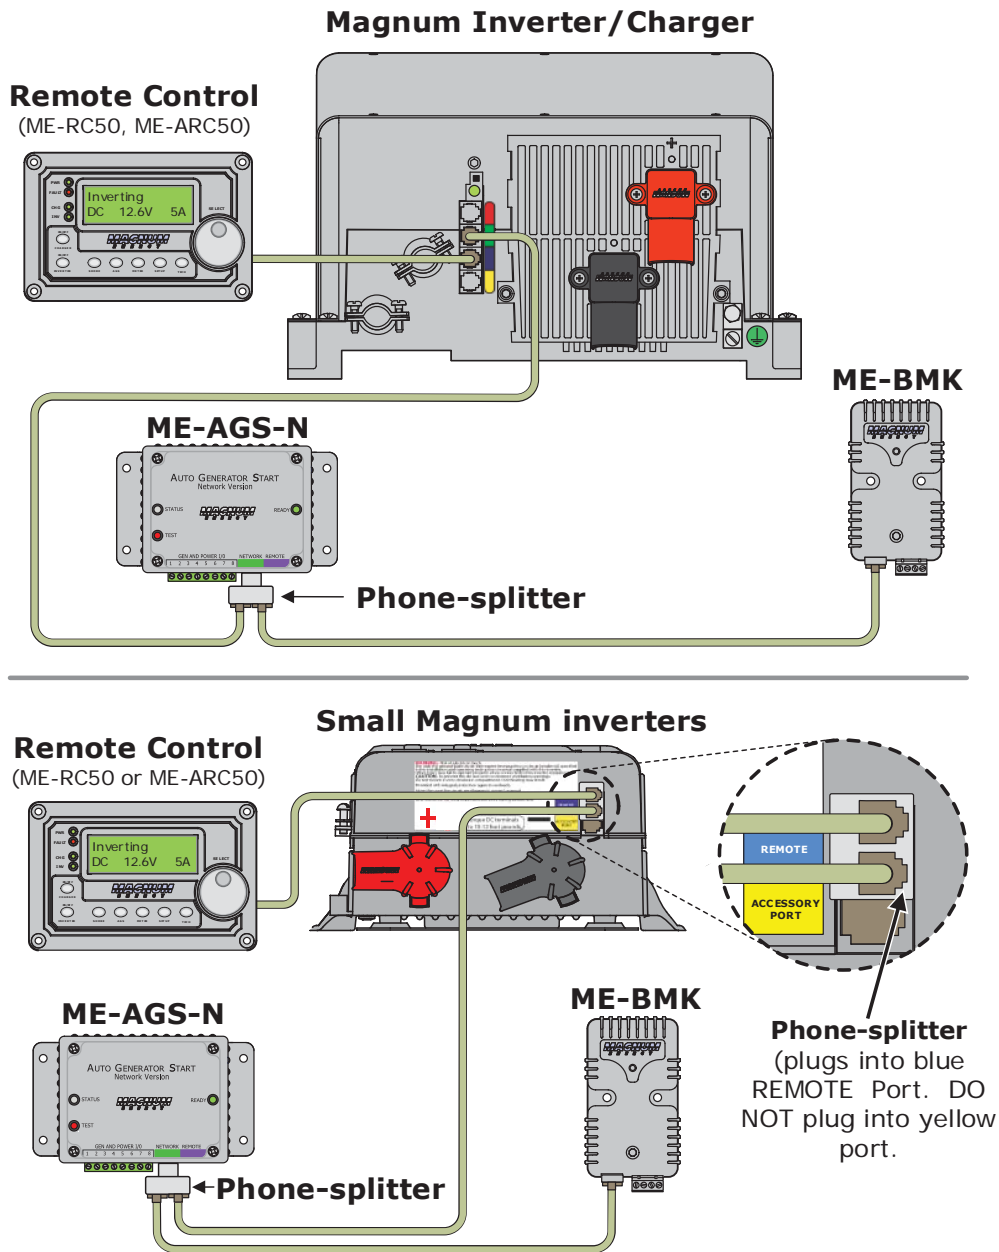

Figure 2-5, Multiple Network Devices – Daisy Chain Configuration
- **Daisy Chain Configuration** – In this arrangement, the network devices are linked in a series (see Figure 2-5). If using this configuration, the first device connected to the inverter's network port* must be the ME-AGS-N—followed by the ME-BMK.